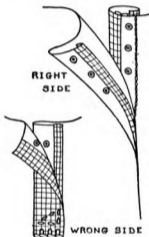

FIGURE 137
*Lap Placket* (Figure 137). — The two-piece inconspicuous placket is used in the plain seam. Establish the desired length of the placket by opening the plain seam. Cut two straight